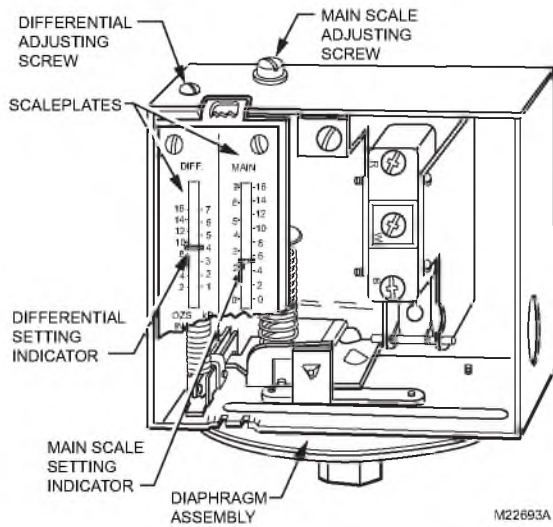

Fig. 8. Setting a VaporStat® Controller.
Adjust the main scale setpoint for the desired operating pressure by turning the main scale adjusting screw (see Fig. 8) on the top of the case until the main scale setting indicator is at the desired value. Adjust the differential setting by turning the differential adjusting screw until the differential setting indicator is at the desired value. The scales are marked in psi and kPa.
2. Turn the main scale adjusting screw (see Fig. 8) until the main scale setting indicator on the controller corresponds to the boiler pressure gauge reading.
4. If the controller is operating properly, turn the main scale adjusting screw (see Fig. 8) until the main scale setting indicator is at the desired setpoint.